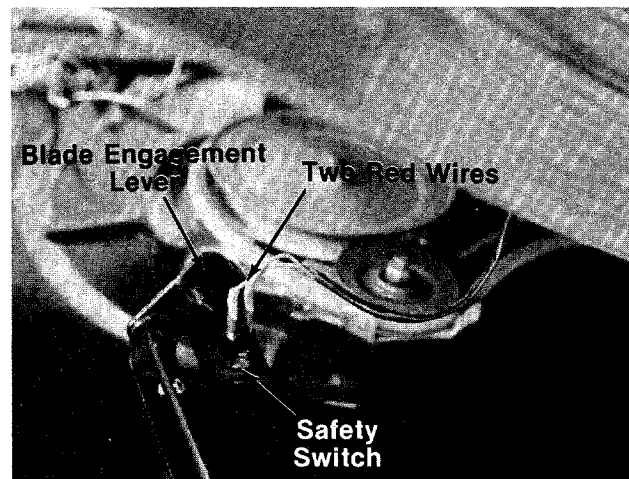

FIGURE 35.
4. Unplug the two red wires on the safety switch located on the left hand side of deck at the blade engagement lever. See figure 35.